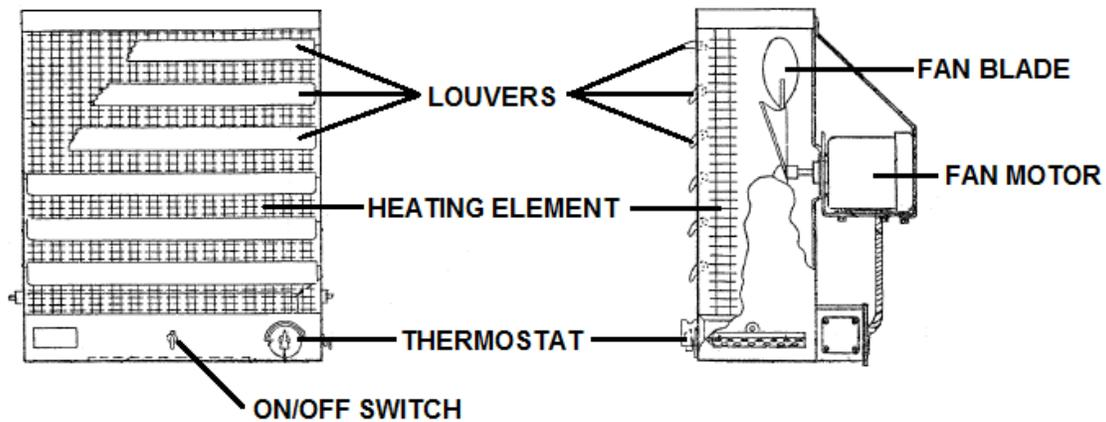

Figure 551-88L-2060_03
4. Conduct maintenance on air handler heating elements, (refer to Figure 551-88L-2060_04).